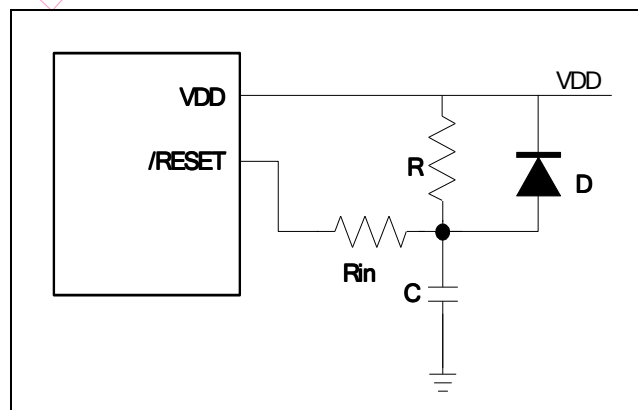

Figure 6-32 External Power-up Reset Circuit
The circuits shown in Figure 6-32 implement an external RC to generate a reset pulse. The pulse width (time constant) should be kept long enough for VDD to reach the minimum operating voltage. Apply this circuit when the power supply has a slow rising time. Since the current leakage from the /RESET pin is about ±5 μA, it is recommended that R should not be greater than 40 KΩ in order for the /RESET pin voltage to remain below 0.2V. The diode (D) acts as a short circuit at the moment of power-down. The capacitor (C) will discharge rapidly and fully. The current-limited resistor (Rin) will prevent high current or ESD (electrostatic discharge) from flowing to Pin /RESET.